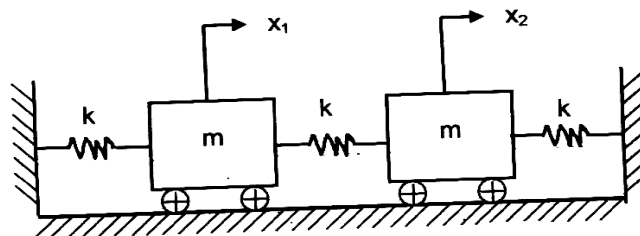

Figure Q. 7 (b)
- b. For the system shown in Fig. Q.7(b), obtain the fundamental natural frequencies and draw the mode shapes. 14